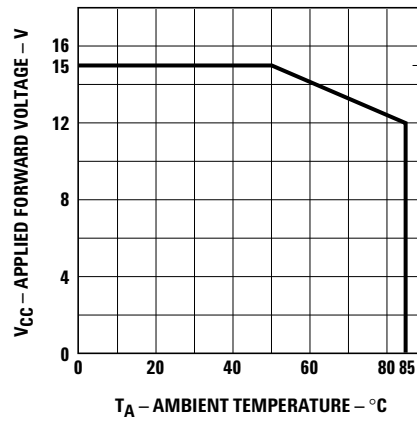

Figure 4. Maximum allowed applied forward voltage vs. ambient temperature  $R_{\theta JA} = 175^\circ\text{C}/\text{W}$ . 12 volt devices.
3. Derate from  $T_A = 50^\circ\text{C}$  at 0.086 V/°C, see Figure 4.